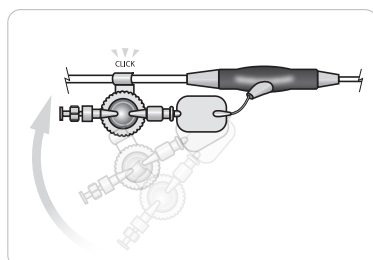

Figure 1.5
6. Snap the purge clip (located on the pressure reservoir of the clear sidearm) to the connector cable as shown in Figure 1.5. **Note:** Snapping the plastic clip on the pressure reservoir to the connector cable is important to prevent the tube from kinking.